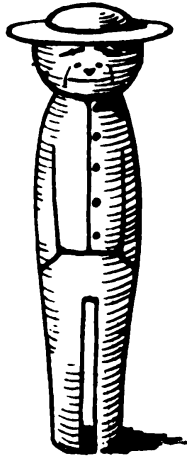

FIG. 33.
*Skittle Men.*—Another piece of work for the pocket-knife expert is the provision of a set of funny skittle men for use in the game of catapult skittles (see below). These can be cut out to any quaint shape, and may be caricatures of well-known people, or of trades, &c. Much amusement can be got out of the cutting and painting of these grotesque little figures. Hats can be provided for them by gluing on little rings of cardboard (Fig. 33).